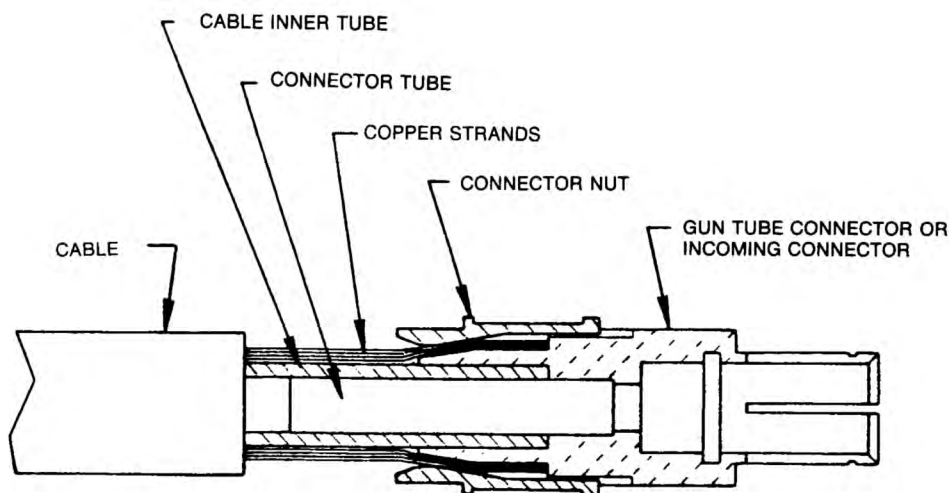

FIGURE D.2
- g. Check that the cable boot and both halves of the strain relief are on the cable. Slip the connector nut over the copper strands with the thread end out. Orient gun tube connector so machined flat is on the same side of the cable as the red and white control leads. Assemble gun tube connector to cable by forcing the steel tube of the connector into the inside diameter of the cable inner tube until the copper strands are butted against the gun tube connector shoulder. Keeping the copper strands against the shoulder, pull the connector nut over the copper strands, engage the gun tube connector threads, and tighten in place. Figure D.2.
- Check that the cable boot and cable handle are on the cable. Slip the connector nut over the copper strands with the threaded end out. Assemble incoming connector to cable by forcing the steel tube of the connector into the inside diameter of the cable inner tube until the copper strands are butted against the incoming connector shoulder. Keeping the copper strands against the shoulder, pull the connector nut over the copper strands, engage the incoming connector threads, and tighten in place. Refer to Figure D.2.